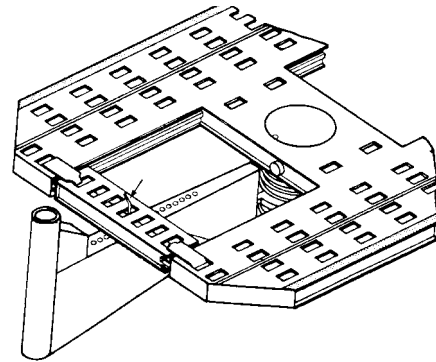
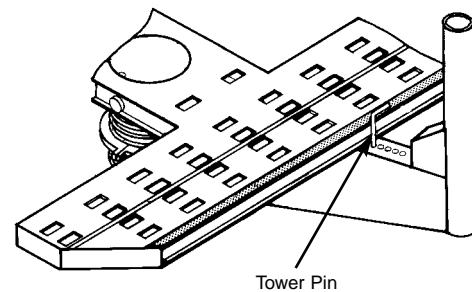
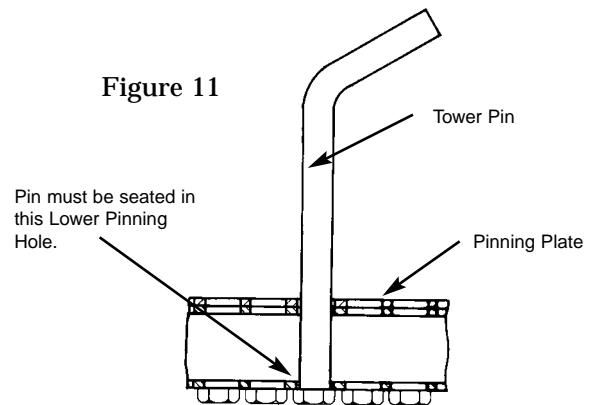

Figure 9
Figure 10
Figure 11
1. Swing tower to desired lateral pulling angle and pin it to mainframe or movable crossmember. (See Figure 9.) Tower pin can be used in any tie down hole or along edge of machine. (See Figure 10.) DO NOT position tower pin in front of or at rear of movable crossmember as it will apply excessive stress to crossmember locks. Instead, install tower pin through crossmember tie down hole. (See Figure 9.) Tower pin must be fully seated in lower pinning hole to avoid damage to top pinning hole. (See Figure 11.)